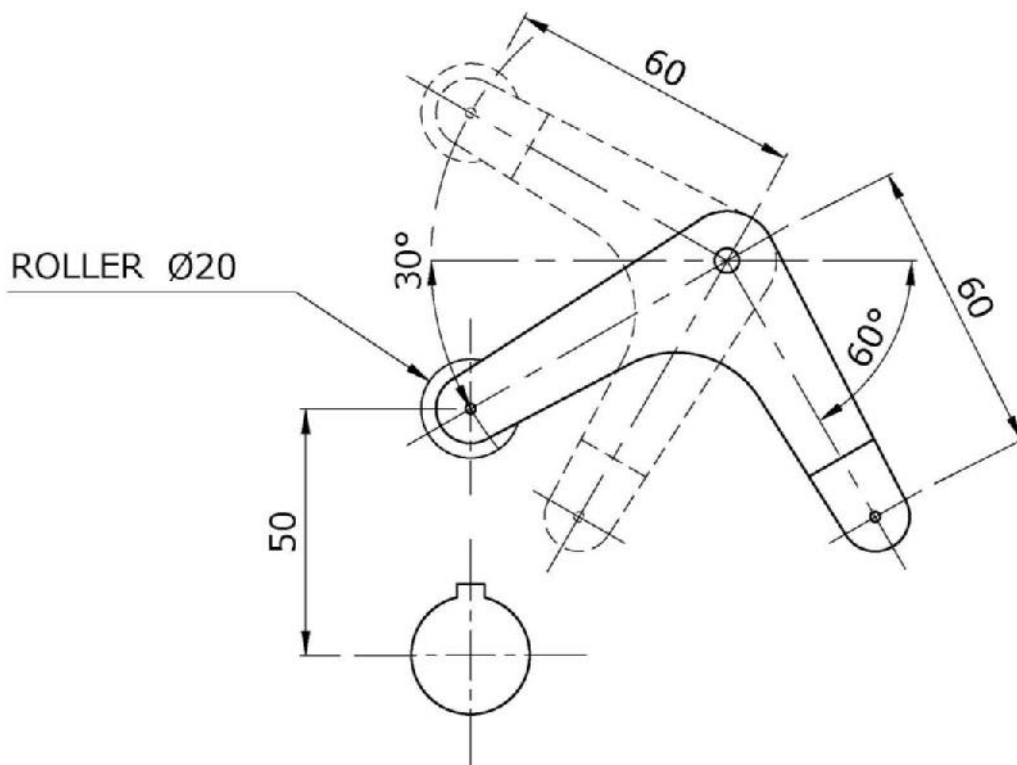

Figure 4b
- a) Copy, full size, the details shown in Figure 4b and draw a suitable motion displacement diagram. (8)
- b) Construct the cam profile to impart the stated motion to the follower. (12)